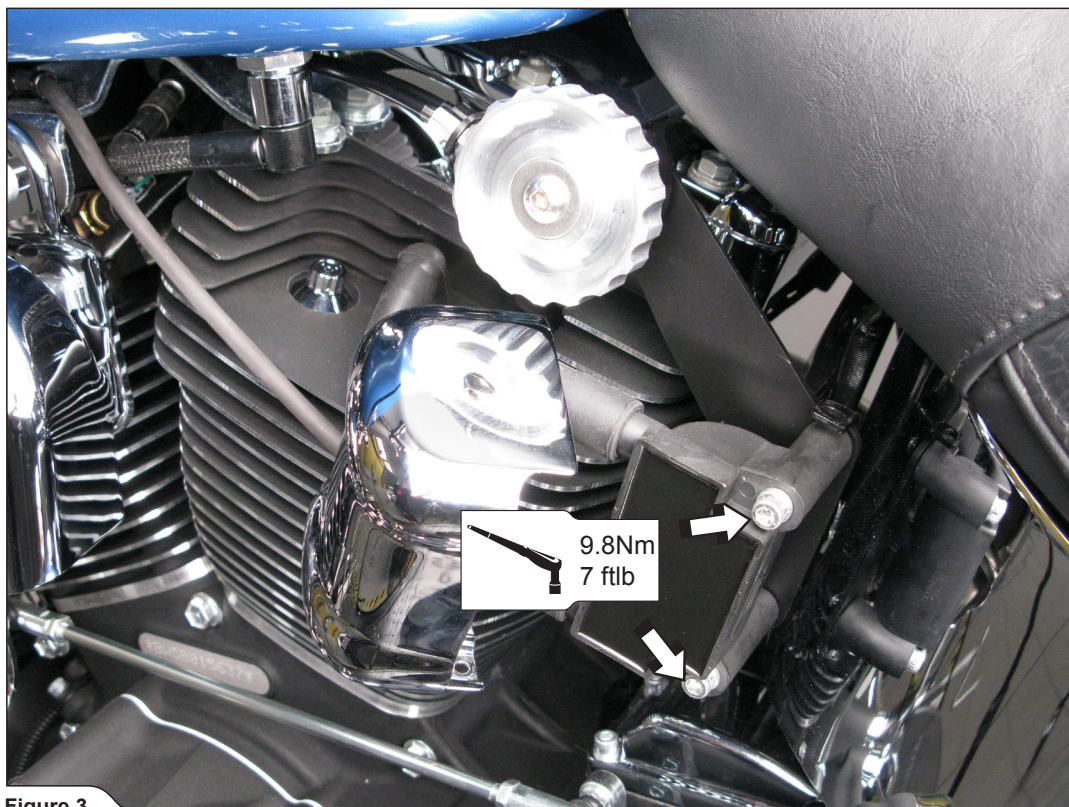

Figure 3
4. Attach the valve switch assembly behind the coil, retighten the coil bolts and fasten the coil cover (Figure 3, 4).